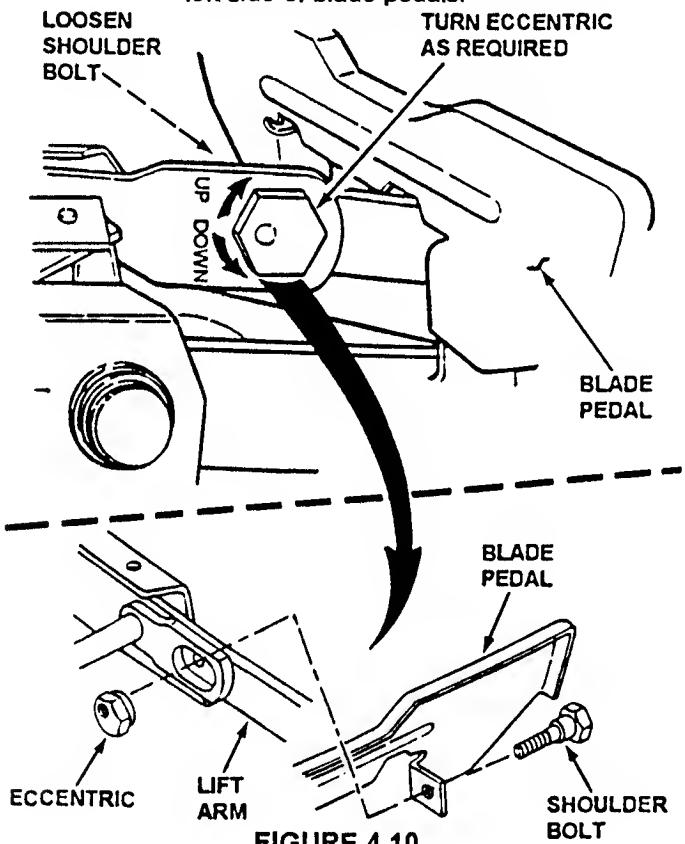

FIGURE 4.10
- g. Turn eccentric "UP" or "DOWN" as required until blade tips are within  $1/8"$  of each other. See Figure 4.10.